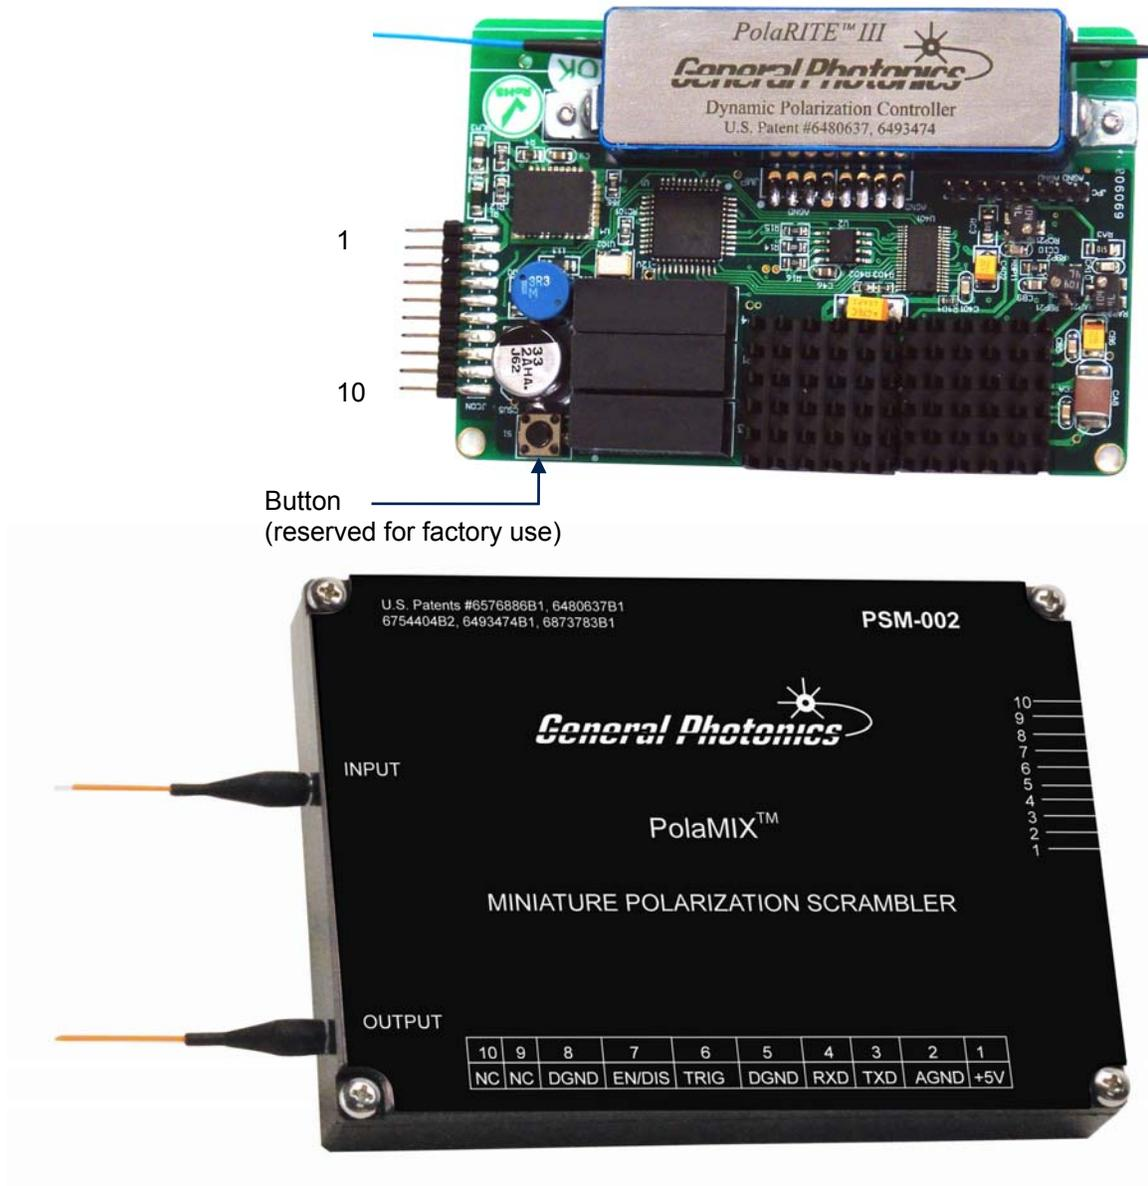

Figure 3 PSM-002 electrical interfaces
Figure 3 shows the PSM-002 with and without an enclosure. The board consists of a PolaRite III polarization controller, driving electronics, and power and communication connector blocks. The external power supply, RS-232 communication, external TTL trigger, and electrical enable/disable signals are connected to the PSM-002 via a 10-pin connector, located on the left side of the PSM-002 without enclosure and on the right side of the PSM-002 with enclosure in Figure 3.
2. Set the power supply to the correct voltage before connecting the power cable. Connect power source to power pins (PIN1: +5VDC; PIN2: GND) as shown in Figure 3. If the PSM is being installed as part of a larger system, make sure that its ground is common with the ground for the rest of the system.